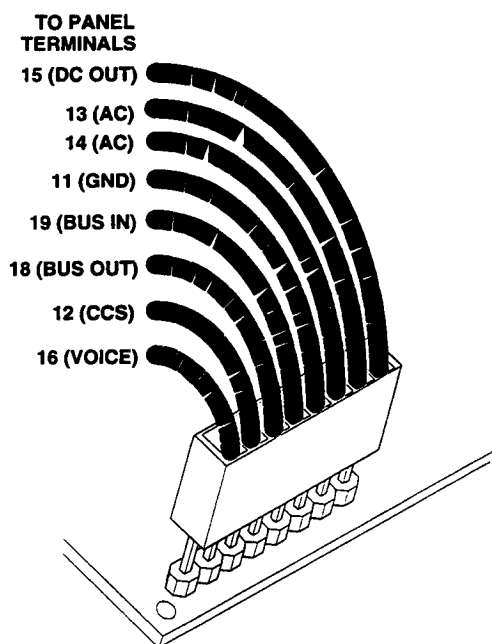

Figure 8. Connecting the Harness Wires to the Panel
- For 12-VDC models, slide the wire harness (included) onto the pins on the lower-right corner of the module and connect the harness wires to the Panel as shown in Figure 8.
Note: Since wire colors may change over time, Figure 8 shows how any wire harness included with the module connects to the Panel terminals, starting with the top wire.